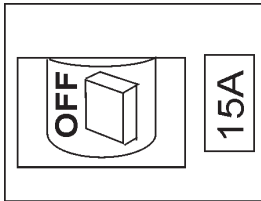

Figure 8. Main Breaker (OFF Position)
2. **NEVER start** the engine with the **main circuit breaker** in the "ON" position. Place the main circuit breaker (Figure 8) in the **OFF** position.